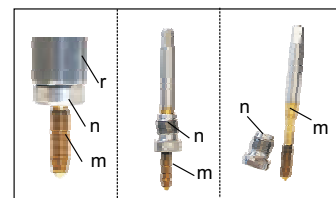

FIG. 15
- Unscrew the nut (n) holding the shaft (r). FIG. 15;
- Remove the tap (m) together with the nut (n). FIG. 15;